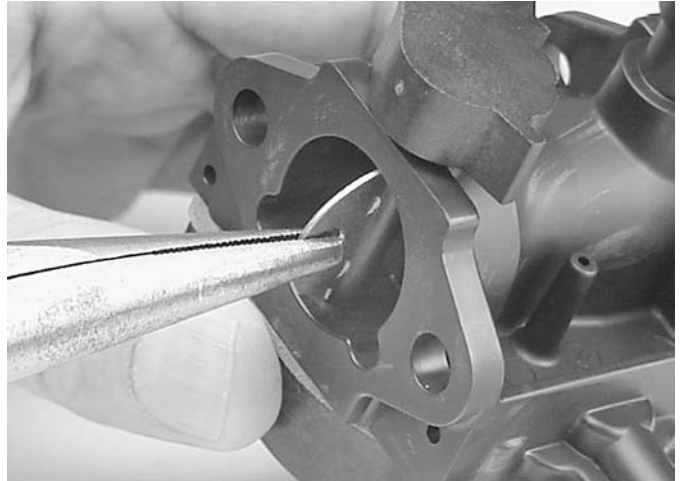

Fig. 40
4. Using needle nose pliers, gently pull the choke plate from the choke shaft (Figure 40). Note the orientation of the small protrusions on the choke plate as you pull it out.